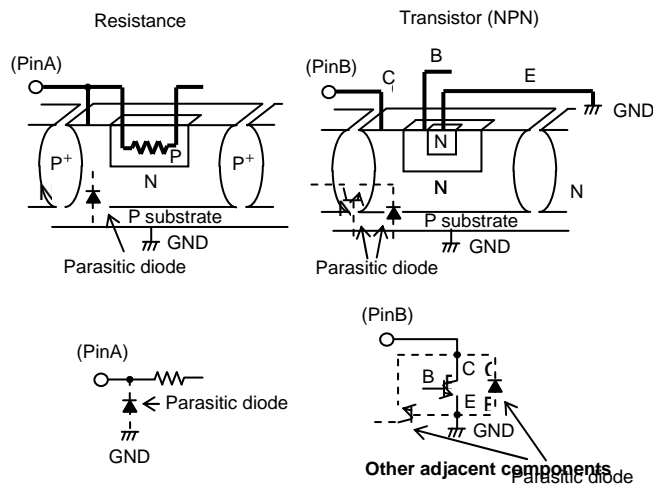

Fig.1 Simplified structure of a Bipolar IC
12. This IC is a monolithic IC which (as shown is Fig.1)has P+ substrate and between the various pins. A P-N junction is formed from this P layer of each pin. For example, the relation between each potential is as follows,